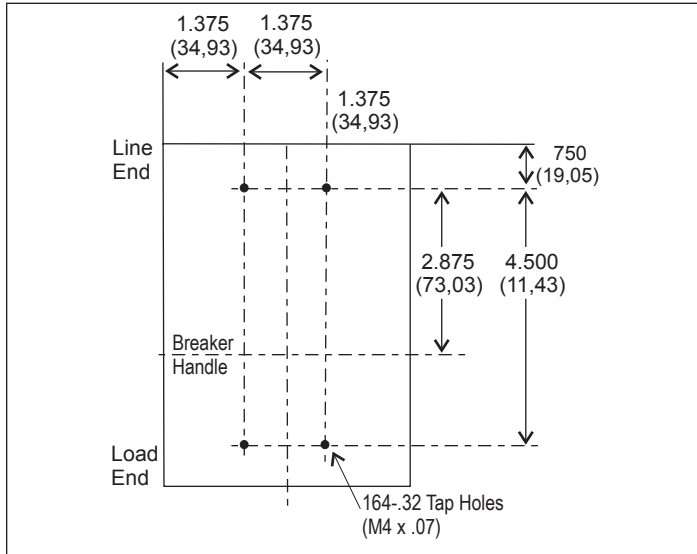
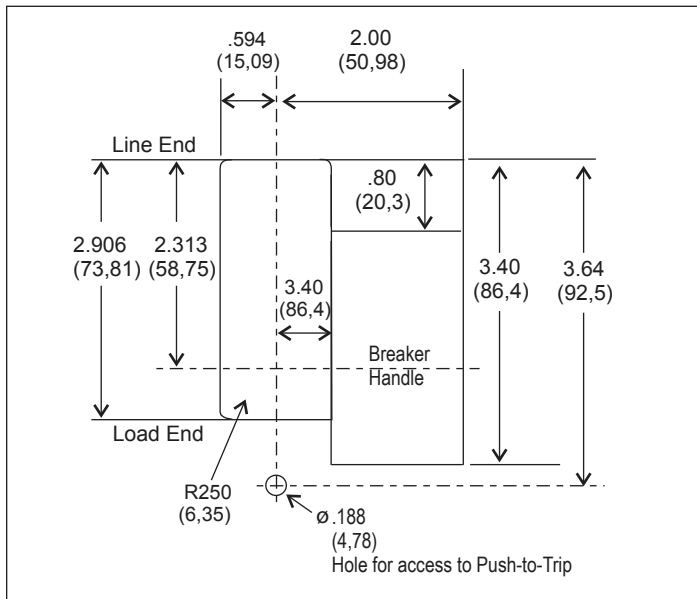

Figure 3. Breaker Mounting Bolt Drilling Plan.
Figure 4. Breaker Escutcheon Dimensions.
1. For individual mounting panels, make sure the mounting panel is predrilled using bolt drilling plan (Figure 3). For panel board mounting, only load end support mounting holes are required. For deadfront cover application, make sure panel cover is cut out to correct escutcheon dimensions (Figure 4).